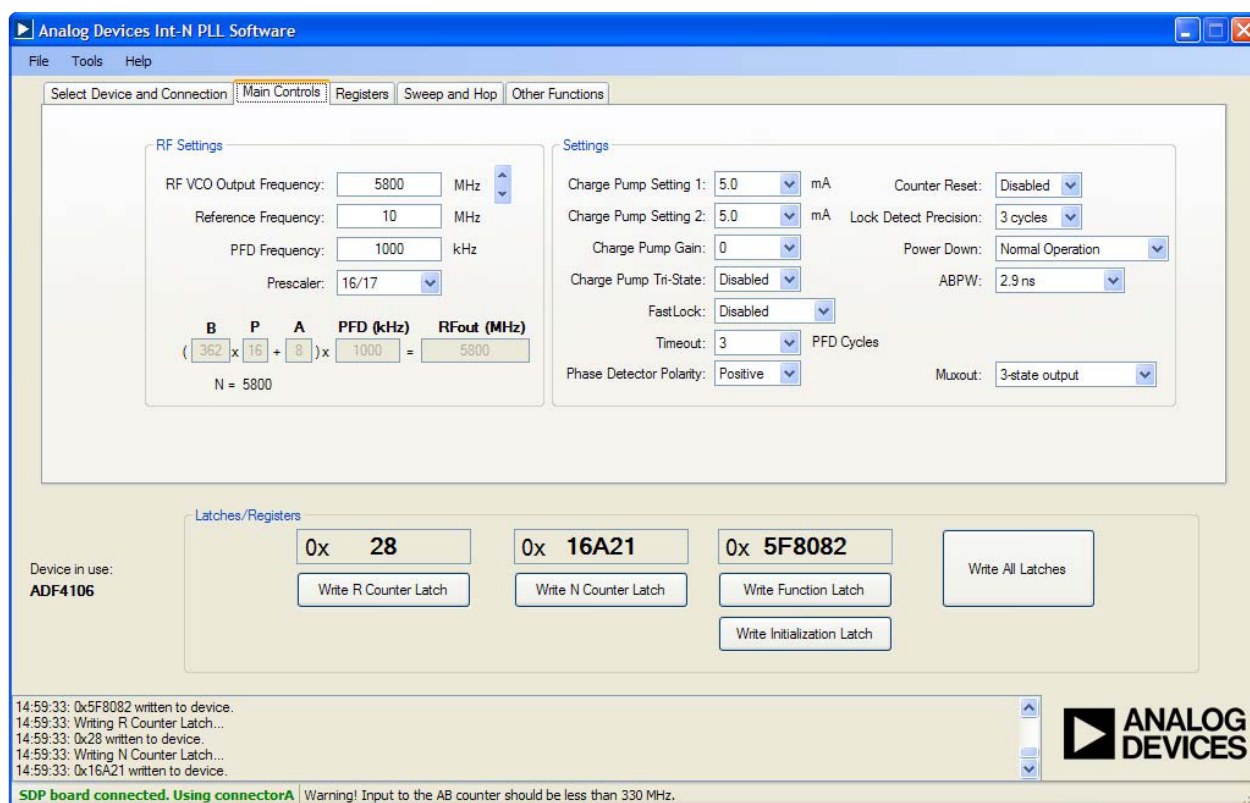
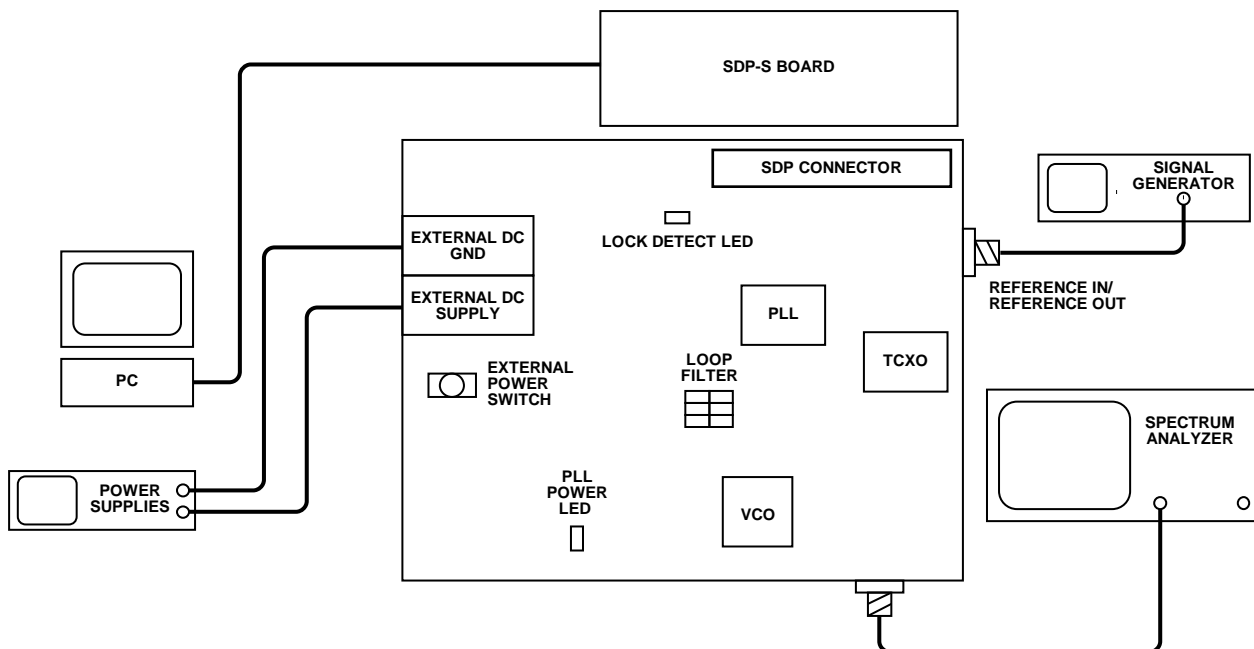

Figure 32. Int-N PLL Software Main Window—Main Controls
Figure 36. Typical Evaluation Setup
The **Main Controls** tab controls the PLL settings (see Figure 32).
8. In the **Main Controls** tab in the main window of the evaluation board software, set the VCO center frequency in the **RF VCO Output Frequency** text box (Figure 32 uses a 5800 MHz VCO). Set the required value in the **PFD Frequency** text box, and program the **Reference Frequency** value to equal the frequency supplied to Connector J11 (or the TCXO). See Figure 36 for the suggested setup.